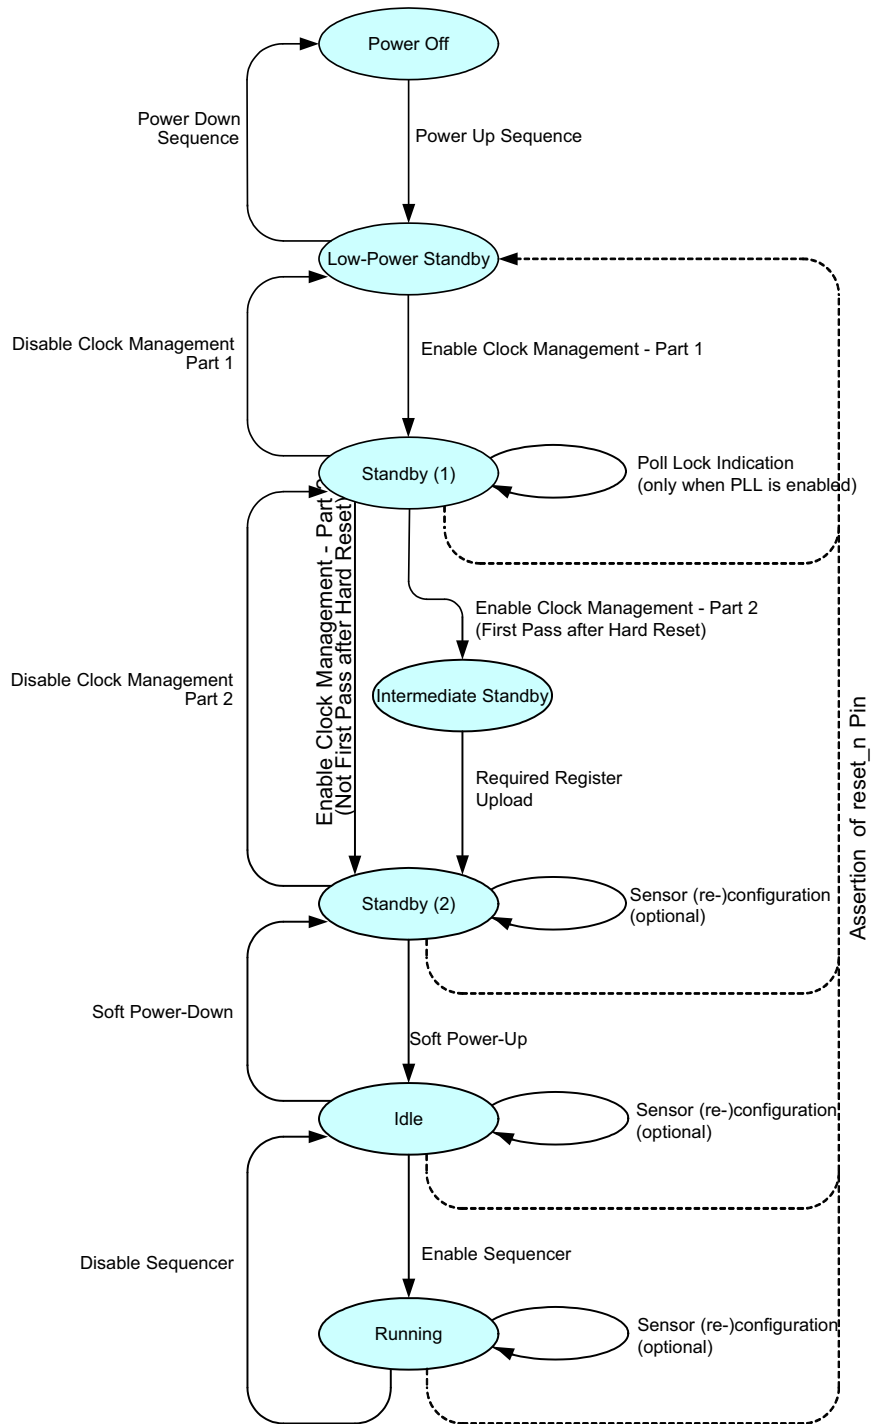

Figure 17. Sensor Operation Flowchart
Figure 17 shows the sensor operation flowchart. The sensor has six different 'states'. Every state is indicated with the oval circle. These states are Power off, Low power standby, Standby (1), Standby (2), Idle, Running.
Check the PLL_lock flag 24[0] by reading the SPI register. When the flag is set, the ‘Enable Clock Management– Part 2’ action can be continued. When PLL is not used, this step can be bypassed as shown in Figure 17 on page 16.